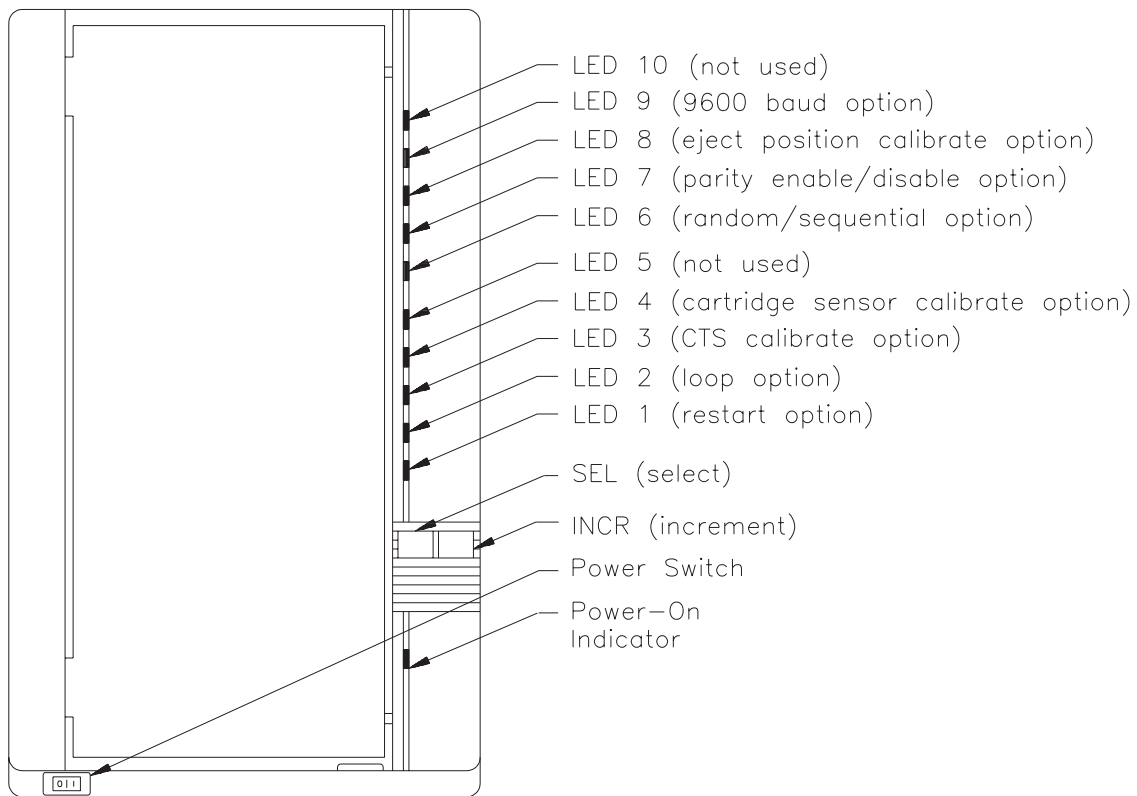

Figure D-1 User options on the EXB-10i
1. Turn off the EXB-10i. Then press and hold both the INCR and SEL buttons simultaneously while moving the power switch to the "on" position. (Figure D-1 shows the location of the INCR and SEL buttons.) After all LEDs turn on and then turn off (in approximately two seconds), wait another second and release the buttons.
The EXB-10i is now in option mode; LED 1 will be flashing. The user options are shown in Figure D-1 on the next page.